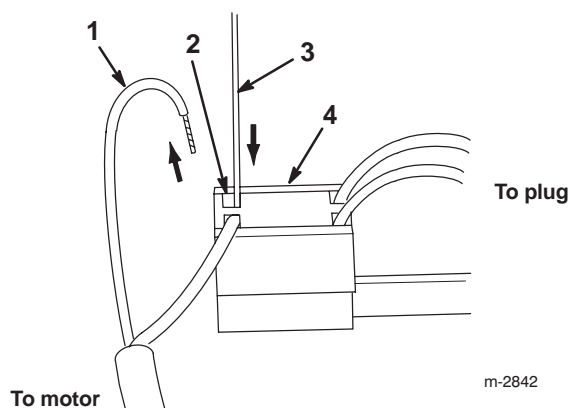

Figure 8
3. Insert the smooth end of a small drill bit into the switch contact openings, depress the flat springs inside the contact openings, and pull the old starter wires out of the switch (Fig. 8).
4. Twist the new starter wires and insert them all the way into the contact openings (Fig. 8).